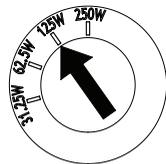

Figure 33
6. Use a flathead screwdriver to change the transformer tap to the desired power level as shown in Figure 33.